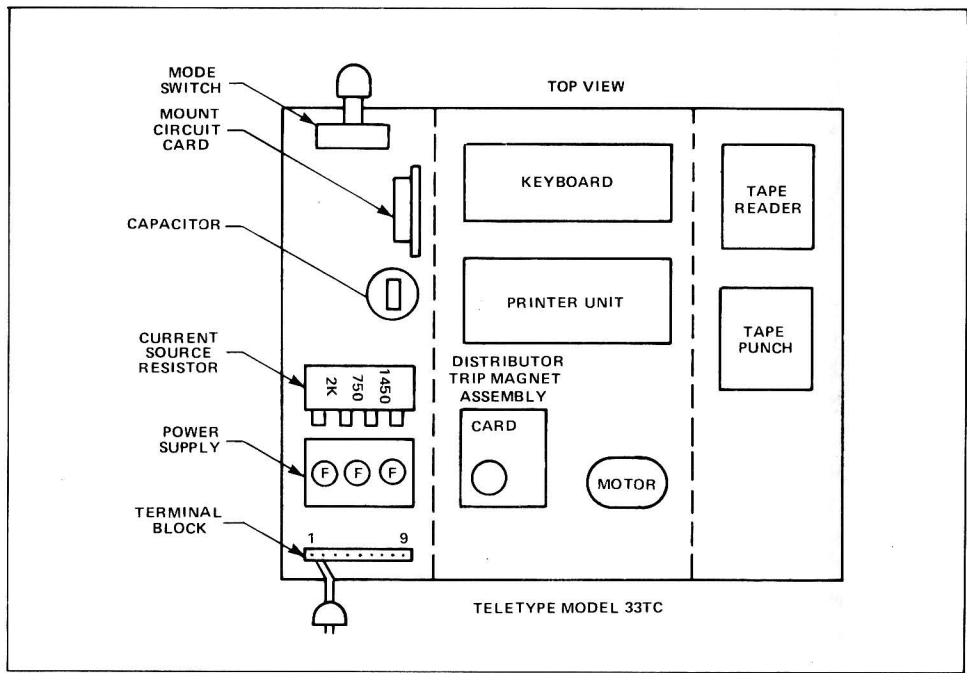

Figure A-1. Teletype Component Layout
- a. Remove the blue lead from 750-ohm tap on current source register, reconnect this lead to 1450-ohm tap. (Refer to figures A-1 and A-2).
- b. On terminal block, change two wires as follows to create an internal full-duplex loop (refer to figures A-1 and A-3):